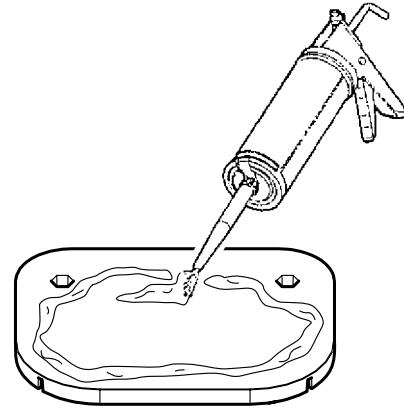

Fig. 7
4. Apply some sealant like SIKAFLEX®252 or similar onto the plates (**Fig. 7**).